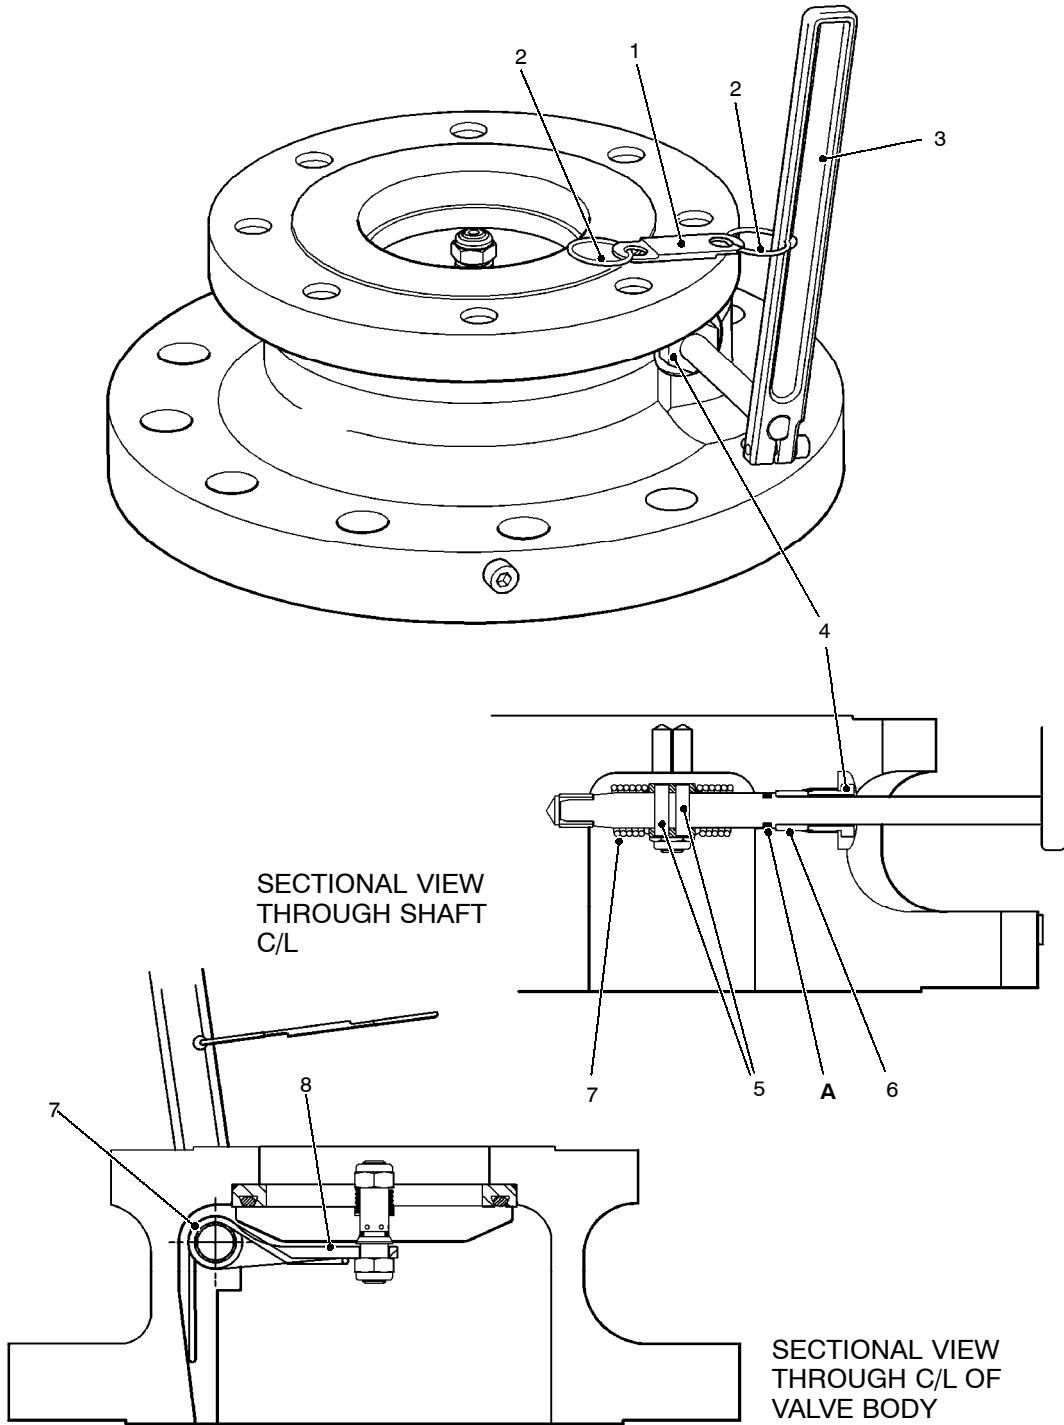

Fig 5.1 Under Hydrant Valve Assembly
3 OPERATING LEVER AND FUSIBLE LINK (Fig 5.1)
- 2.3 Inspect for leakage around the Operating Lever Locking Nut and Bush area. If any leakage is detected return complete unit to Avery-Hardoll for evaluation. Refer to Chapter 5, Fig 5.1.